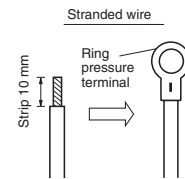

Fig. 4-5
- Cut the wire end with cutting pliers, then strip the insulation to expose the stranded wiring about 10 mm and tightly twist the wire ends. (Fig. 4-5)